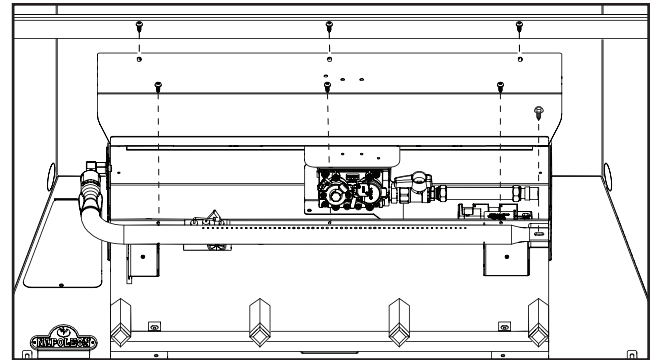

FIG. 1
2. Remove the six screws securing the valve train cover and remove it (**Fig. 1**) to access the valve.
3. Remove the one screw securing the burner (**Fig. 1**). Lift the burner from the appliance to access the orifice.